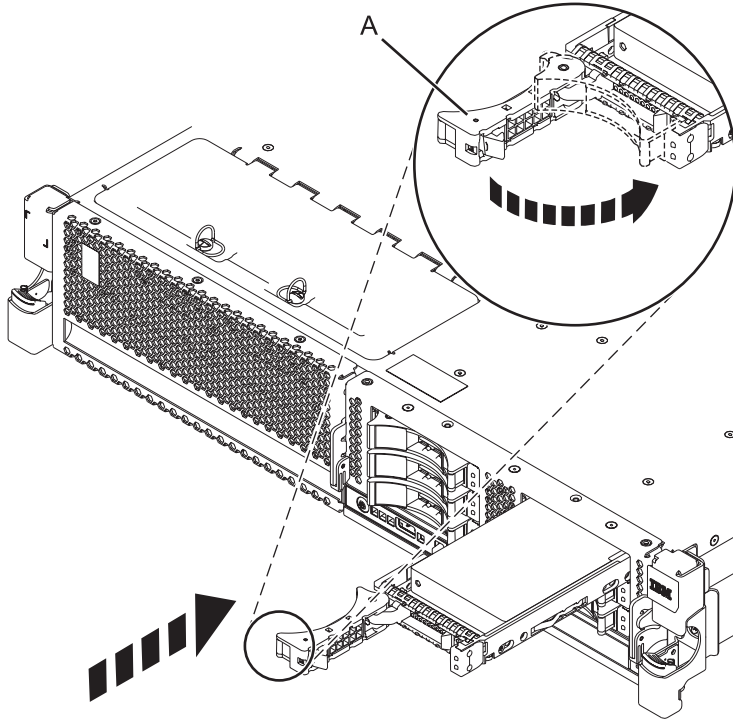

Figure 1. Installing the disk drive in the system
6. When the identify LED turns on solid, slide the drive all the way into the system or an expansion unit, and push the drive handle **(A)** in until it locks. See Figure 1 on page 6.